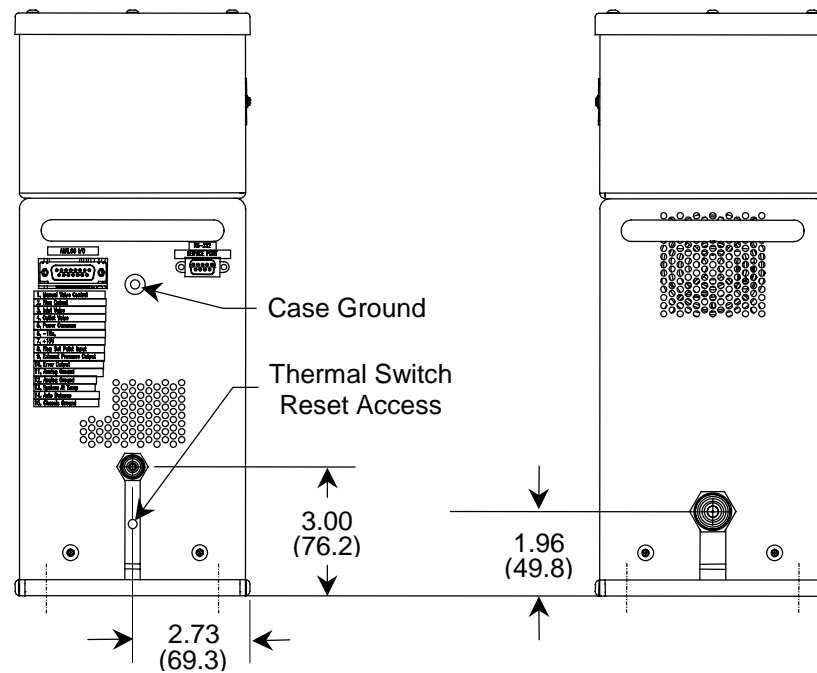
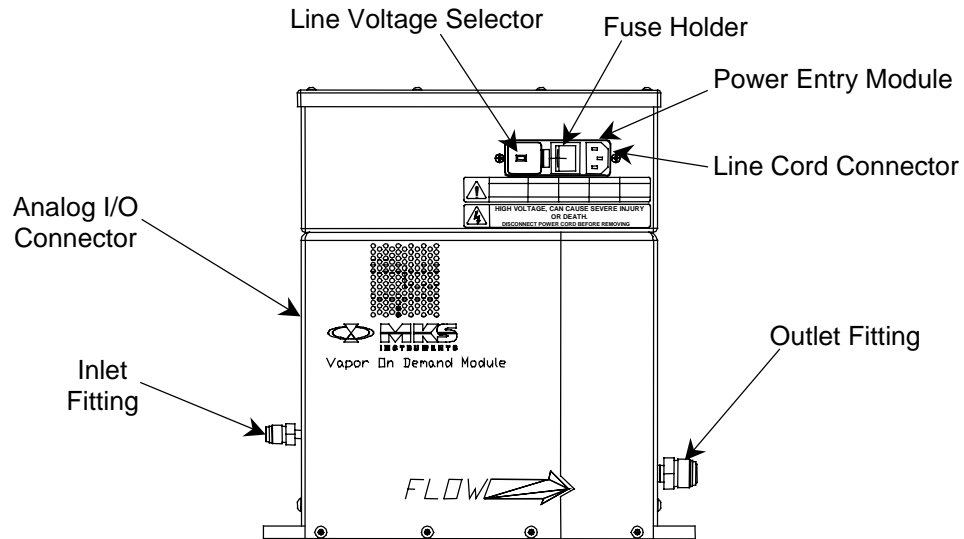

Figure 7: Side Views of the VoDM Unit
Figure 10: Front Panel Component Identification
- With very few exceptions, connectors must make good ground contact to the device's case. A 10-32 threaded insert is provided for this purpose, next to the I/O port (see Figure 7, page 27); connection to it using 12 AWG wire is necessary to achieve CEM Class B limits. "Good contact" is about 0.01 ohms. The ground should surround all wires. Contact to ground at just one point may not suffice.
There are two connectors located on the VoDM unit: an Analog I/O and an AC Power connector (refer to Figure 10). The pinout of the Analog I/O connector is listed on the inlet-side panel, as shown in Figure 7, page 27. The pinout for this connector is also listed in Table 5, page 32.
Refer to Figure 10, page 31, for the location of each component.